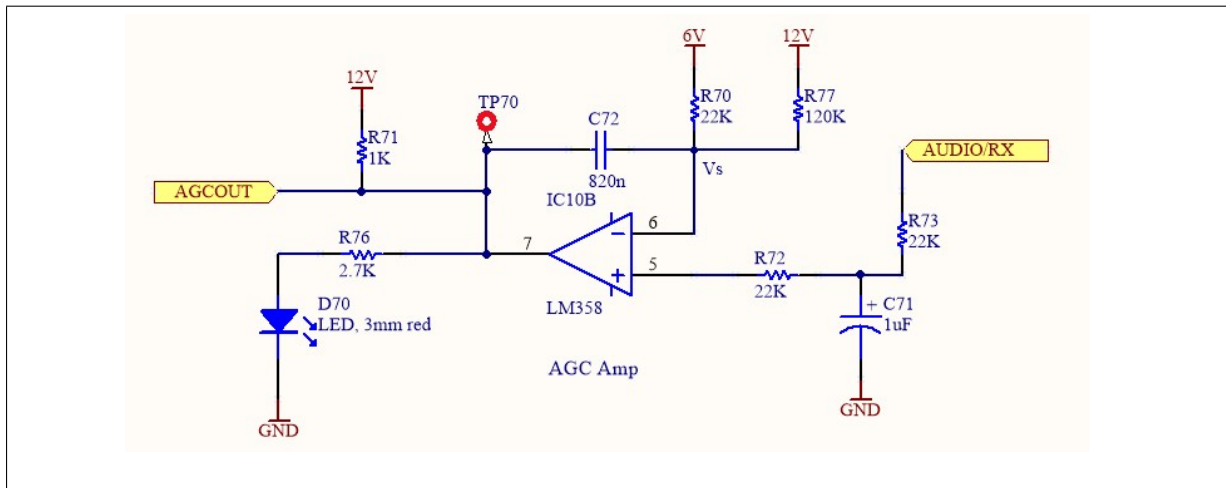
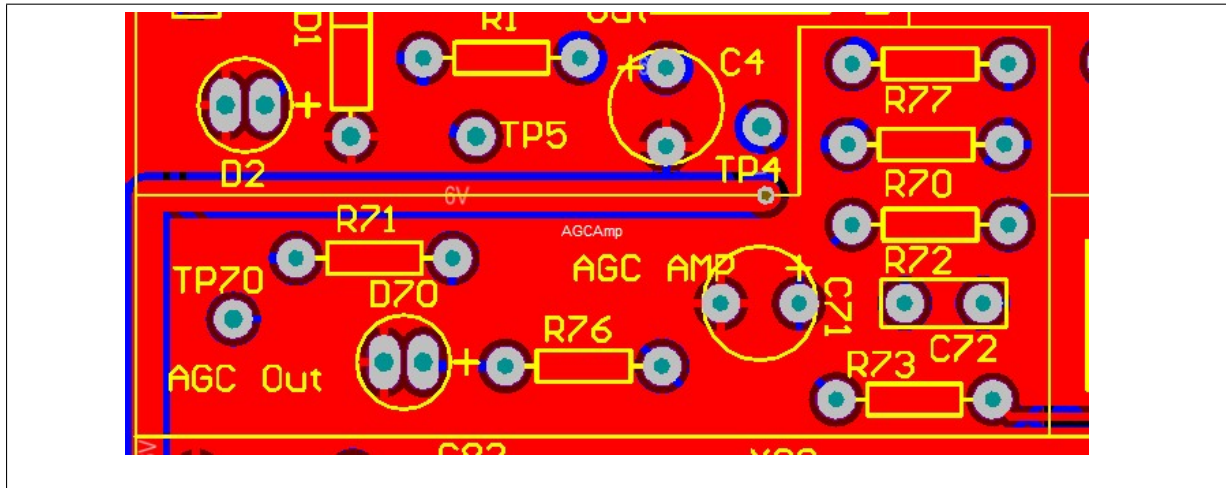

Figure 4: Automatic gain control circuit.
Figure 6: Correct PCB annotations for AGC circuit.
- The automatic gain control (AGC) circuit of TRC-11 is given in Fig. 4.
- Now, we are ready to incorporate the automatic gain control (AGC) circuitry to prevent saturation of the IF amplifiers. Refer to Fig. 4. Note that the PCB annotations of C72 and R72 are inadvertently swapped. Correct PCB annotations are shown in Fig. 6.
- The automatic gain control (AGC) circuit of TRC-11 is given in Fig. 4. Place R70, R71, R72 (in its corrected place), R73, R75, R77, and D71. Watch the direction of the PIN diode. Solder them. Cut the leads on the back side.